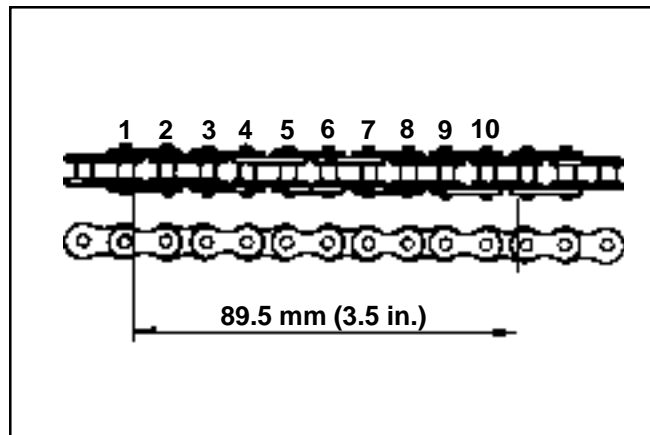

Figure 10-24. Chain Stretch Limit.
- b. Clean the chain (CS4 and CS6) in solvent to remove as much dirt as possible. Dry and then check the condition of the chain. If any links are tight and do not pivot freely (see Figure 10-25), or the chain has stretched beyond the specified limit measured across 10 pitches (see Figure 10-24), it must be replaced.